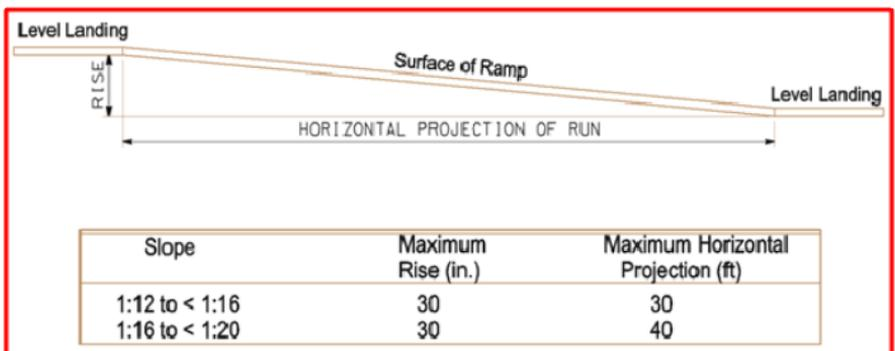

Figure 10. Components of a Single Ramp and Sample Ramp Dimensions (ADAAG)
- Each ramp must have level landings at the bottom and top. A landing must be as wide as the run leading to it and have a minimum length of 60 inches. (See Figure 10.)